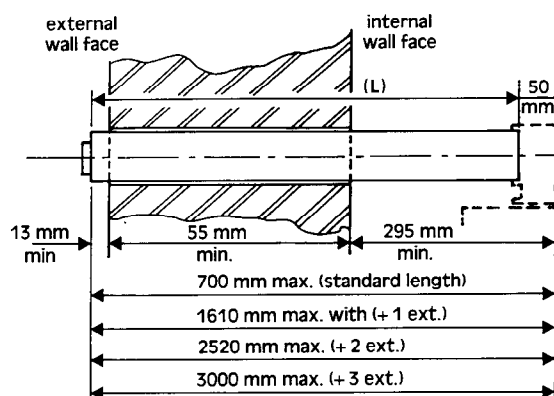

Fig. 3
The pump (21) circulates water which returns to the boiler via the return valve (31) which incorporates a filter (30). Before reaching the pump it passes through an air separator and air purger (17). The return water passes through the heat exchanger (2) where it is heated. It then passes through the change over valve (19) which in heating mode is in its rest position (fig. 3) and out via the flow valve (27) to the radiator circuits (34). The boiler thermostat (8) controls the temperature of the circulation water between a minimum of 50° C approx and a nominal maximum of 82° C. The boiler thermostat also controls the opening of the 1/3 (11) and variable solenoid valve (10).